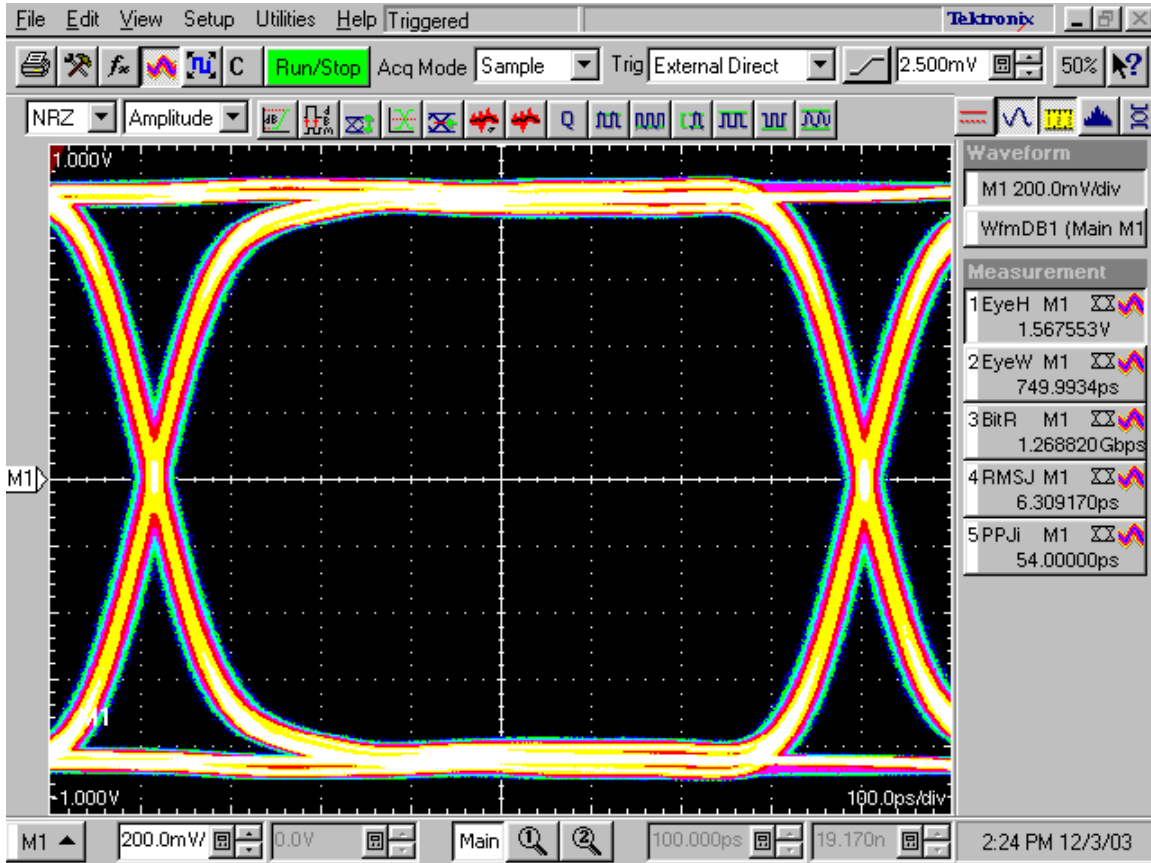

Figure 3-2. MC92603 Data-Eye Using Recommended Test Setup
6. Observe XMIT_x_P or XMIT_x_N. The transmitter should now be outputting random data. Setting the digital sampling oscilloscope to infinite persistence mode will display a data-eye. An example of a data-eye is shown in Figure 3-2.